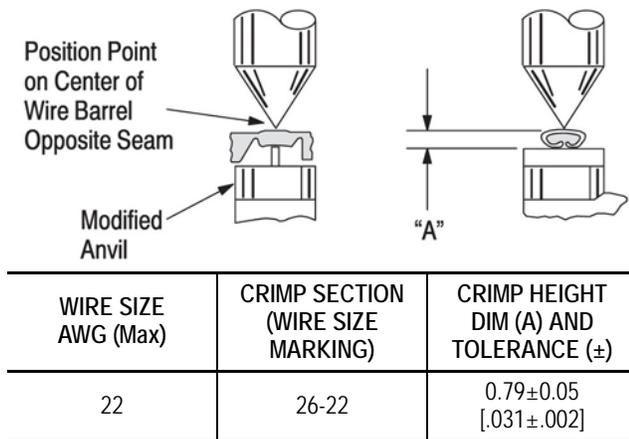

Figure 4
This tool is provided with a crimp adjustment feature. Initially, the crimp height should be verified as specified in Figure 4. Refer to Section 6, Crimp Height Inspection, and Section 7, Crimp Height Adjustment, to verify crimp height before using the tool to crimp desired contacts and wire sizes.
1. Refer to Figure 4 and select a wire (maximum size) for the crimp section.
3. Using a crimp height comparator, measure the wire barrel crimp height as shown in Figure 4. If the crimp height conforms to that shown in the table, the tool is considered dimensionally correct. If not, the tool must be adjusted. Refer to Section 7, CRIMP HEIGHT ADJUSTME